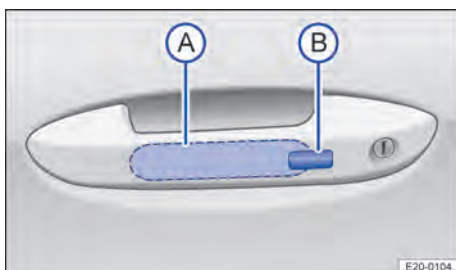

Fig. 53 In the door handle: sensors.
1. Touch the sensor → Fig. 53 Ⓐ on the inside of the door handle.
2. Touch the sensor → Fig. 53 Ⓑ on the outside of the door handle.
→ Fig. 53 . Do not reach into the door handle.